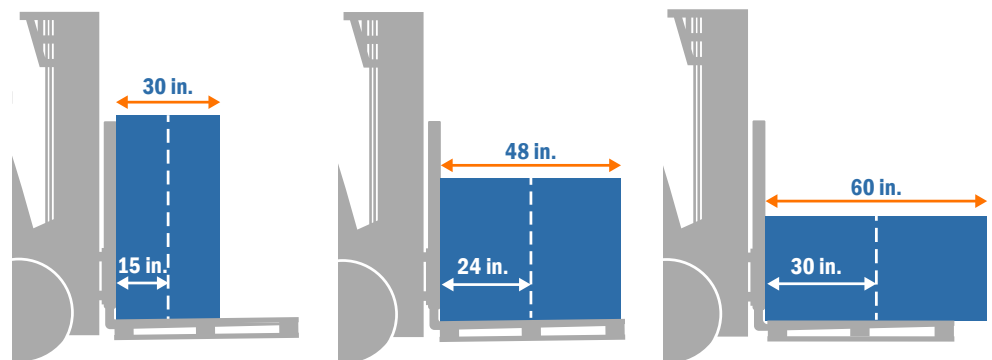

Figure 3.4. The load center can vary due to the load's size, shape, or weight distribution.
- If the value of the actual load center (Figure 3.4) is greater than the rated load center, calculate an adjusted capacity to determine if the load can be lifted.